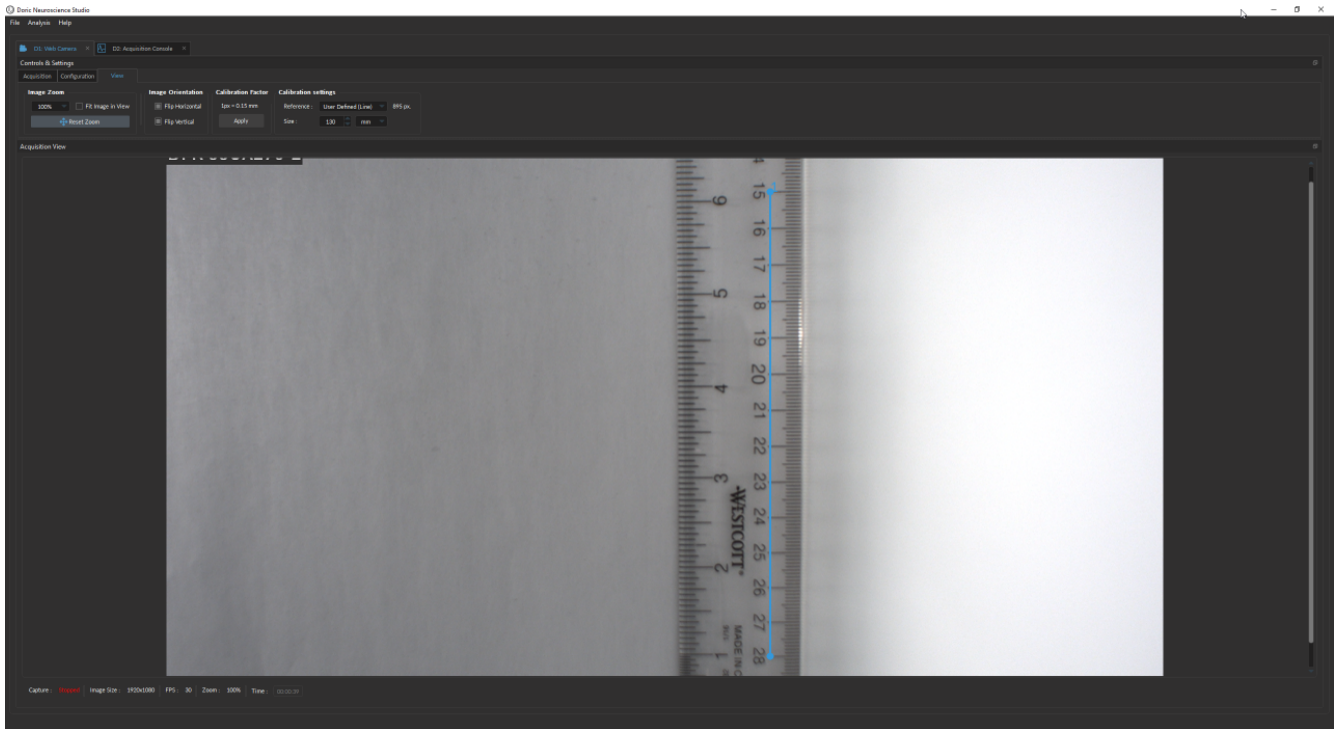

Figure 7.8: Camera Module - Calibration User-defined line
- A *User Defined (Line)* - uses a user-drawn line within the image as a reference (Fig. 7.8). This line can online be horizontal or vertical. For optimal results use an object/dimension that fills most of the image.